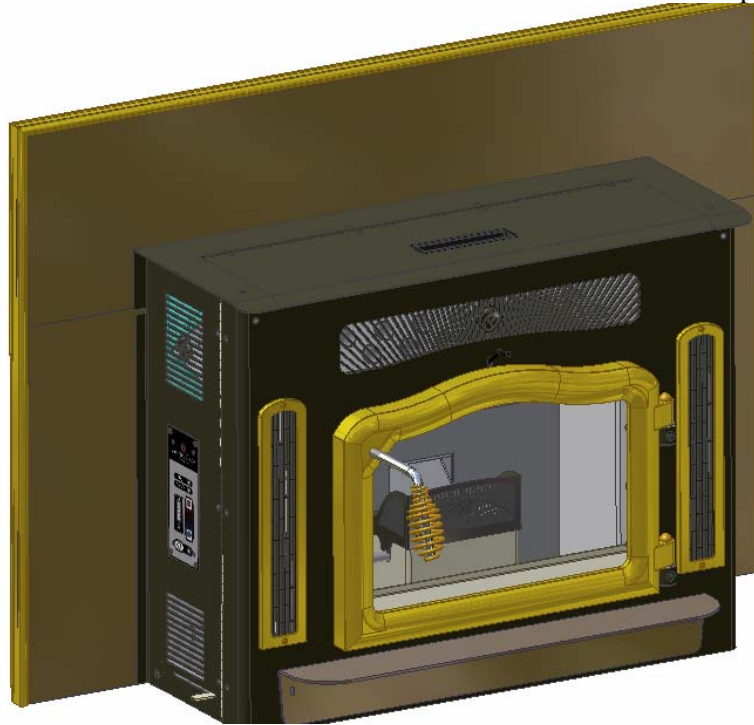

FIGURE 11h: CROSSFIRE SHROUD (shown with optional gold trim)
6. The installer should now place the trim (black or gold as purchased) around the edges of the shroud panels. Once installed, if the bottom left or right side trim pieces want to pull away from the shroud panel, a small amount of RTV (silicone) may be used on the backside of the shroud panel to hold the trim in place. Close and secure both Crossfire side access doors. Installation is now complete and the Crossfire can be moved into its final location. As the Crossfire is slid back into the hearth, it is important not to push too hard and bend the shroud due to excessive pressure but at the same time, ensure enough pressure is applied between the hearth face and the shroud trim to avoid unwanted vibration during operation. FIGURE 11h shows how the shroud should look on the Crossfire once installation is complete.